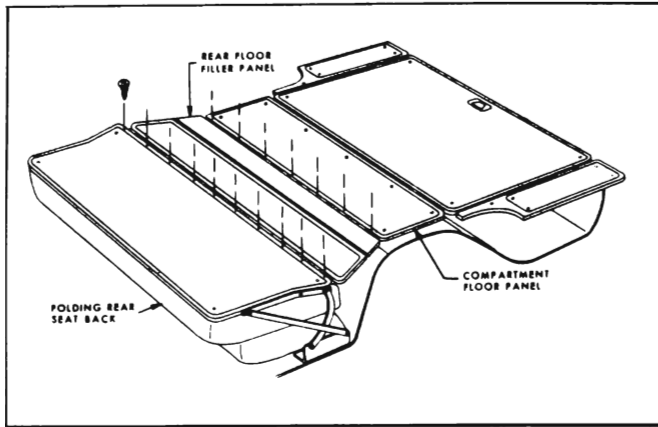

Figure 13-65 — Folding Rear Floor Filler Panel Assembly
2. Remove filler panel to folding seat back attaching screws and filler panel to rear seat pan attaching screws as shown in Figure 13-65 and remove filler panel from body.